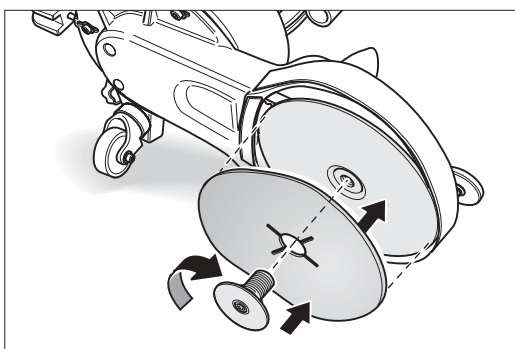

Fig. 48: Install the new sanding disc and then tighten the sandpaper tensioning screw firmly by hand.
- 6 Place a new sanding disc on the sanding disc wheel and insert the sandpaper tensioning screw into the sanding disc wheel. Make sure that the sanding disc is fastened in the best possible centred position on the sanding disc wheel (Fig. 48).